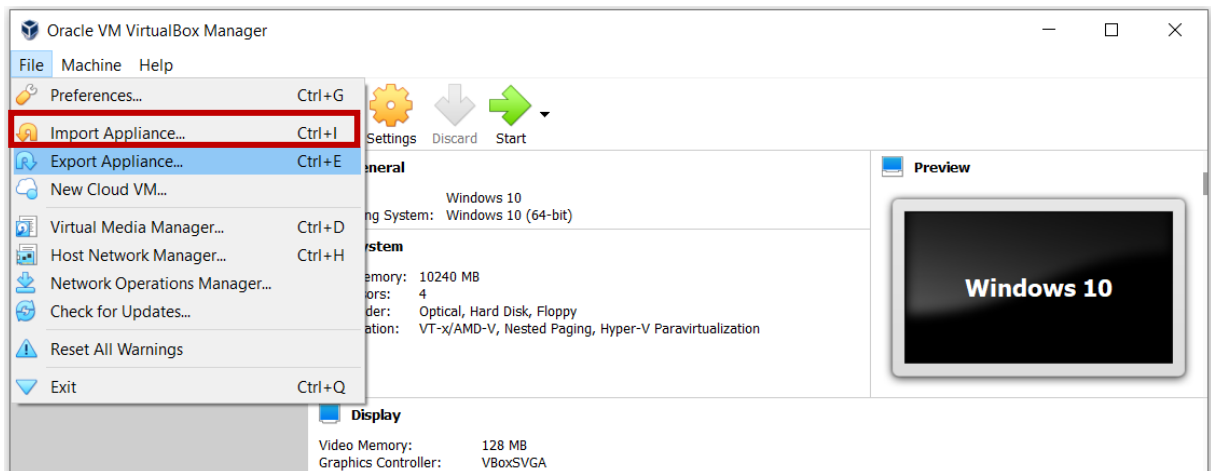

Figure 16. VM VirtualBox Software
- 'Image File' supplied to the customer opens via VM VirtualBox. (See Figure 16)